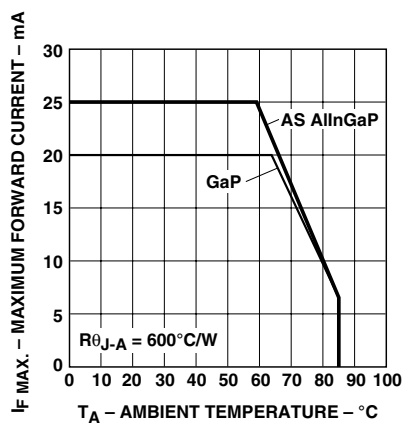

Figure 4. Maximum forward current vs. ambient temperature.
1. Derate linearly as shown in Figure 4.